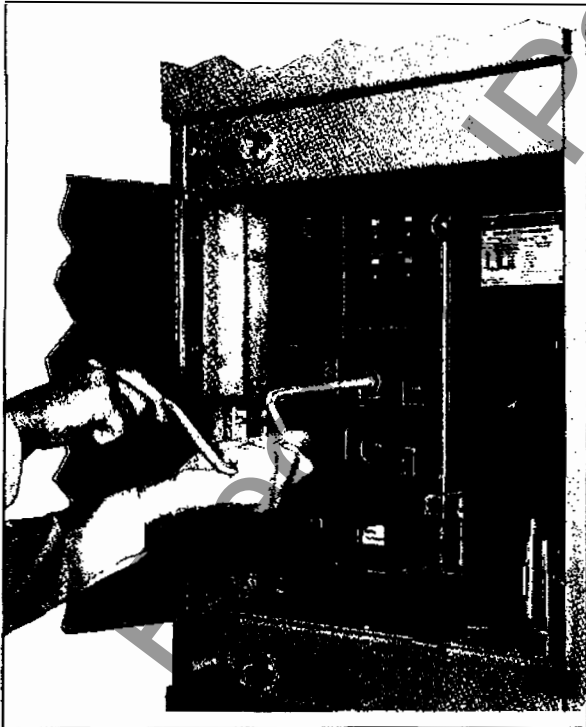

Fig. 17 *Using Levering-In Crank (391177)*
1.2.1 A levering-in crank for moving a breaker anywhere between the REMOVE and CONNECTED positions; this crank is used for turning the levering-in nut which is a part of the breaker. See Fig. 17.